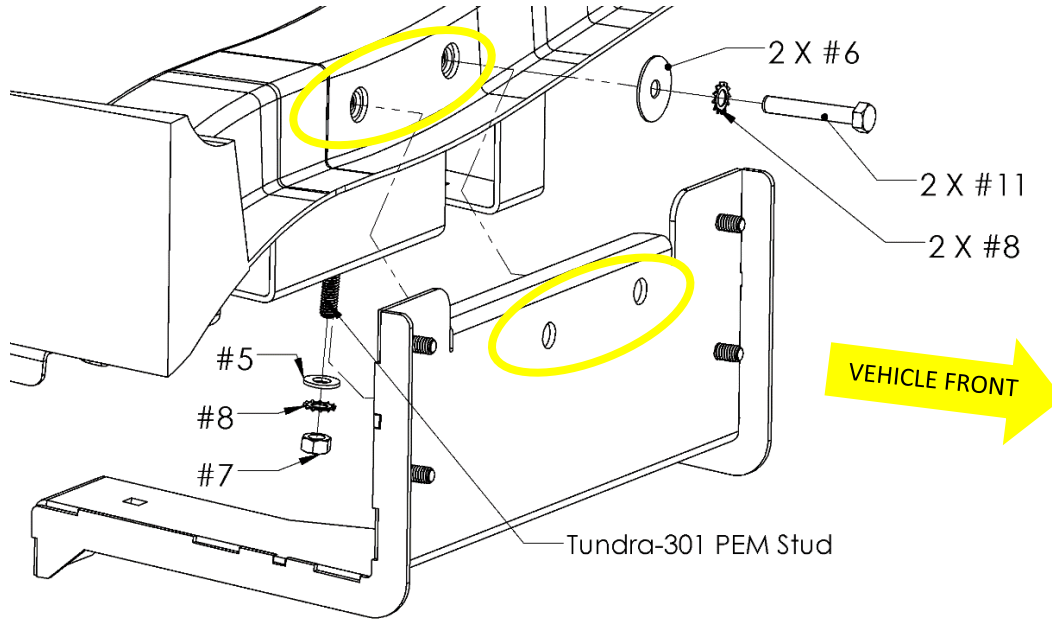

Figure 14 - TUNDRA-201 to TUNDRA-301 Mounting with Hardware; Exploded View
10.4.1. Lift Air Tank Bracket (Tundra-201) into position over Air Horn Bracket (TUNDRA-301) stud and front facing crossmember holes, as shown circled in Figure 14 below.